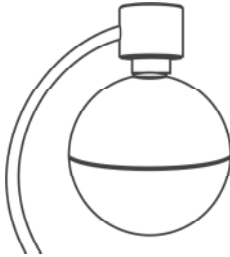

Fig.3
1. Fix the globe in the exact centre directly below the upper magnetic head (see Fig. 3); the permanent magnet will secure the globe sphere to the magnet head in this position.
Before unplugging the device, we recommend that you allow the globe sphere to fix directly on the upper magnetic head (see Fig. 3). Otherwise, it will fall when unplugged or the power supply is interrupted. In the event that the sphere does fall, the globe's South Pole contains a further permanent magnet, which then safely fixes the globe sphere to the lower part of the frame. This prevents the globe ball from rolling off the table etc.